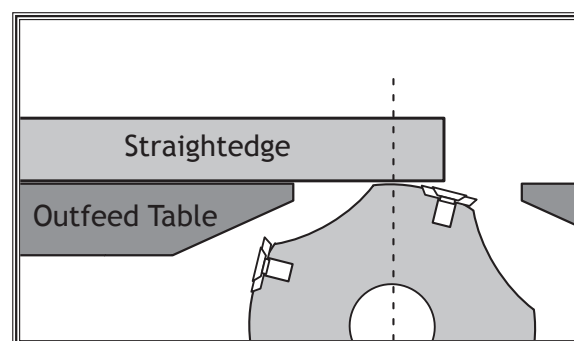

Figure 29. Straightedge just touching cutterhead body.
3. Place straightedge on outfeed table so it hangs over cutterhead, then insert included Torx driver into cutterhead rotation guide and rotate cutterhead until straightedge just touches cutterhead body (see **Figure 29**).